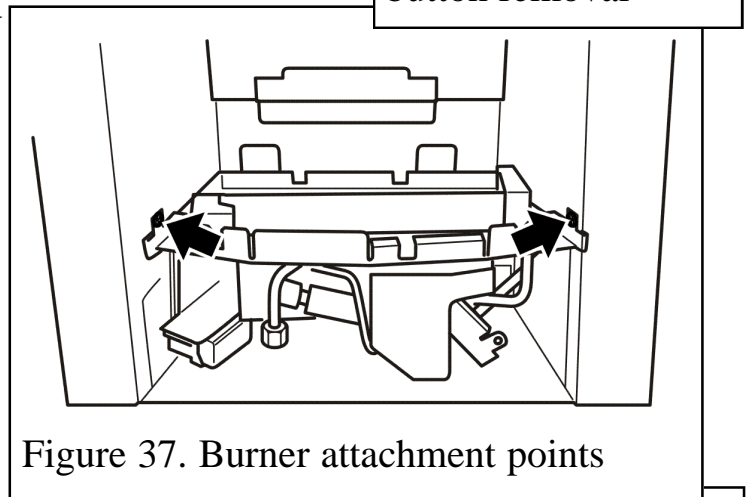

Figure 37. Burner attachment points
4. Detach the burner unit from the convection box by removing two screws (See figure 37).